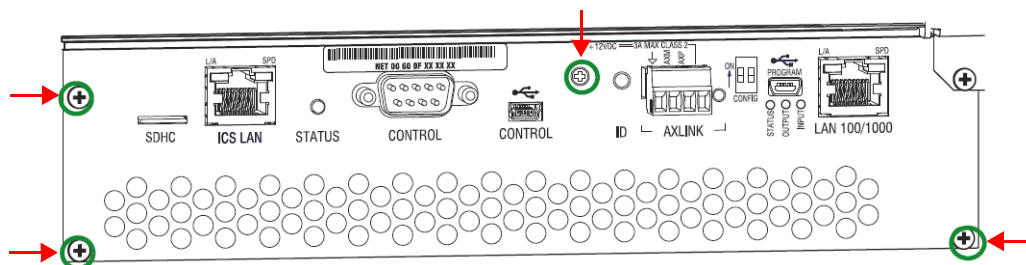

FIG. 133 CPU board DGX 6400 - Remove screws indicated
4. Enova DGX 6400 – Remove the four screws from the CPU faceplate (FIG. 133):